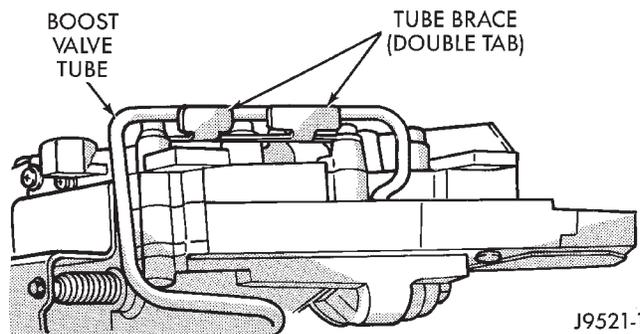

Fig. 82 Boost Valve Tube Brace
(26) Bend back tabs on boost valve tube brace (Fig. 82).